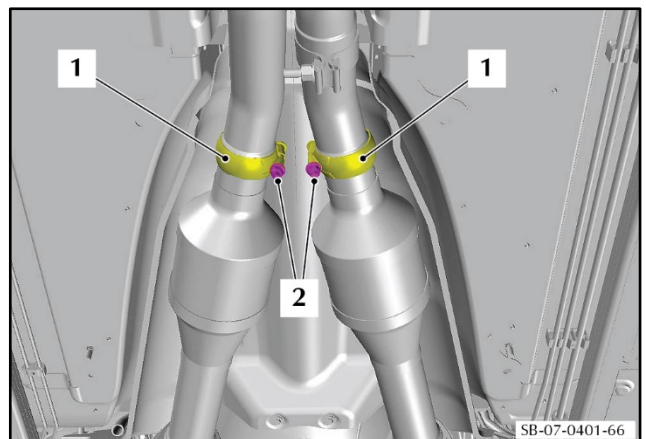

Figure 67
130. Move the two clamps (1) into the correct positions on the catalytic converters and pipe assemblies (refer to Figure 67).